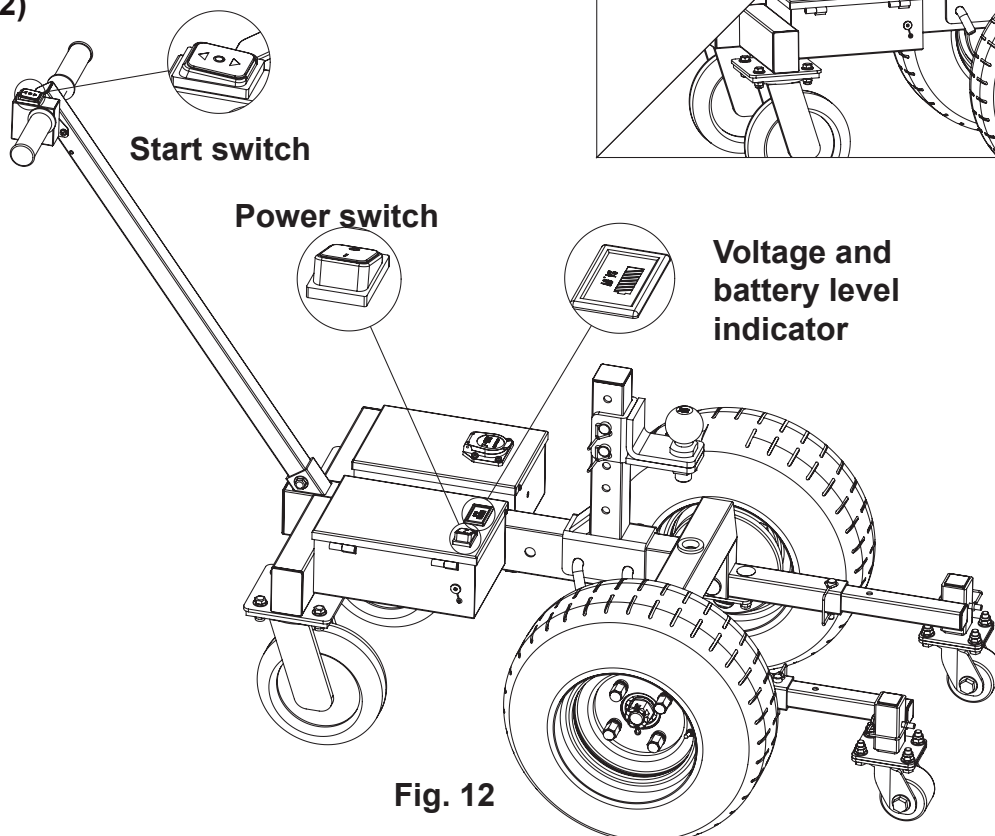

Fig. 12
- Turn on the power switch (Step 1) and check if the voltage and battery level indication is full (Step 2). Press the start switch in the same direction as the dolly (Step 3) and then the vehicle starts to move slowly at a speed of 1.5km/h. (See Fig.12)